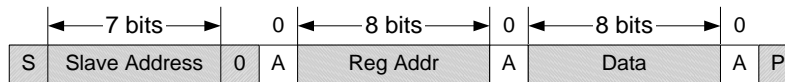
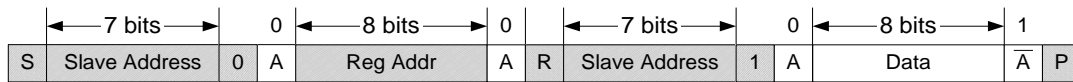

Figure 46. Write Transaction
Figure 47. Read Transaction
During a read from the FAN54015 (Figure 46, Figure 47), the master issues a Repeated Start after sending the register address and before resending the slave address. The Repeated Start is a 1-to-0 transition on SDA while SCL is HIGH, as shown in Figure 45.
**Table 21. Bit Definitions for Figure 46, Figure 47, and Figure 48**